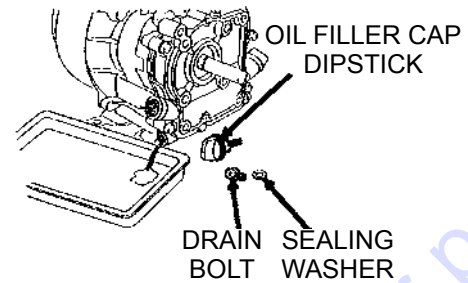

Figure 31. Engine Oil (Draining)
1. Drain the engine oil when the oil is warm as shown in Figure 31.